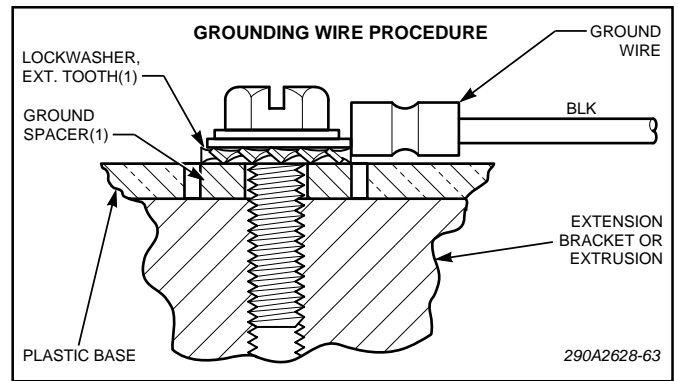

Figure 4.
- To ensure a good electrical ground, attach the ground wire from the flasher to the extrusion using a lockwasher and existing #10 screw (see figure 4).
- See figure 4. Attach the black wires terminated with a ring terminal on each stationary light assembly to the lightbar's metal channel/extrusion using a #10 x 1/2" hex head thread-forming screw, lockwasher, and ground spacer.